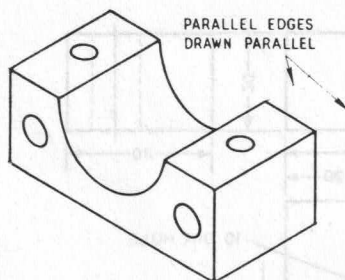

FIG. 9. ISOMETRIC DRAWING.
- **ISOMETRIC DRAWING.** This drawing combines some of the pictorial effects of the perspective with the facility of being able to measure the principal lines directly. All lines which are parallel on the object, are drawn parallel and all lines may be drawn to scale. Fig. 9, shows an isometric drawing of an article.